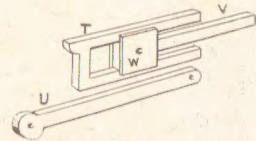

Fig. 6—Valve gear
Two cover pieces as (W) are glued on, one each side of (V), as seen in Fig. 6 to hold the piston in place when it travels backwards and forwards through the cylinders.